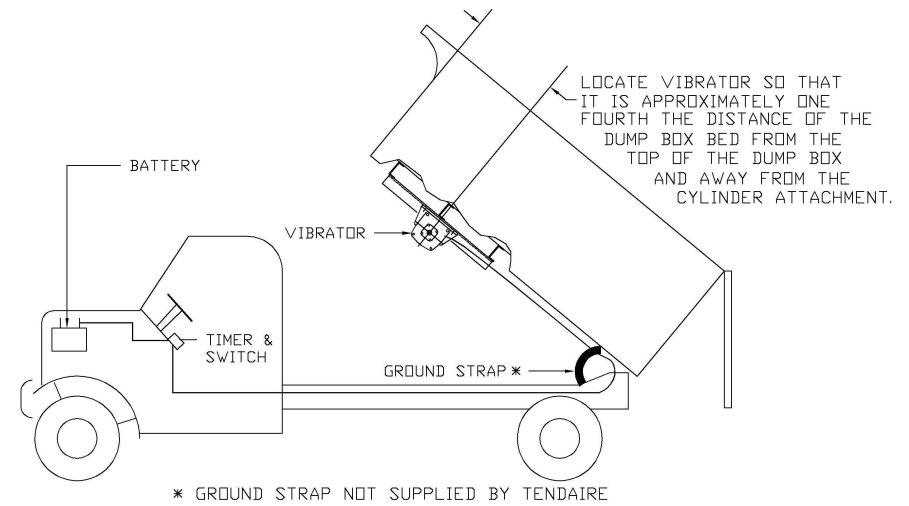

Figure 5. Vibrator Location
Use a grounding strap to bypass the hinge on the body. (see fig 5)
- 1. LOCATION:** Vibrator and vibrator power cable must be located so that they clear gas tanks, hydraulic tanks, etc., when the dump box is lowered. Vibrator should also be located approximately $\frac{1}{4}$ the distance of the dump box bed from the front of the dump box. (See figures 5 & 6)